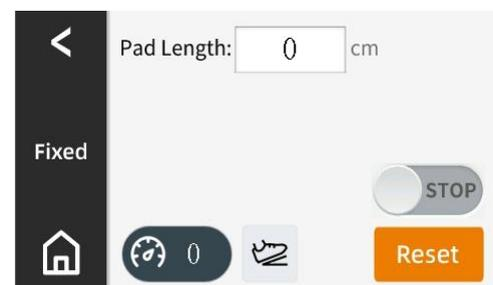

Figure2
- 1) Click to enter Fixed mode (Figure 2);